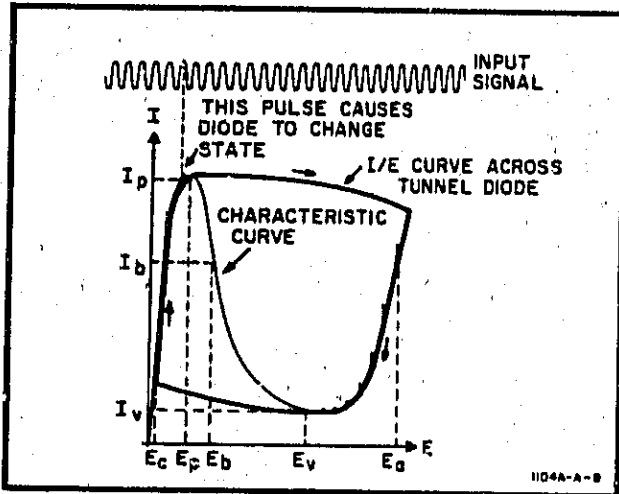

Figure 8. Typical Tunnel Diode Excursion
24. The Model 1104A consists principally of a constant current bias supply for the tunnel diode. The output current is set by R3 and R4 (Figure 11) to a value which provides relaxation oscillation by the action of the tunnel diode and L5. The tunnel diode oscillates at a free-running frequency of approximately 100 MHz, depending on the current supplied by the bias supply and the inductance of L5. A typical tunnel diode characteristic curve is shown in Figure 8. A negative resistance region (in which current would decrease as voltage increases) exists between I_p and I_v . The bias output of the Model 1104A is adjustable between these two points; for instance, I_b .
25. When the power is applied, the current into the tunnel diode begins to rise toward I_b . When it reaches I_p , it encounters the negative resistance region where increasing voltage demands decreasing current. Since the Model 1104A supplies a constant current, and the current through L5 cannot increase instantly, T. D. voltage (E) jumps to E_a . Note as the current through L5 begins to increase, the current through the tunnel diode must decrease toward I_b (since total current is constant) and E begins to diminish toward E_b . When I reaches I_v , it again encounters the negative resistance region where decreasing voltage demands increasing current. Since total current is fixed and the current through L5 cannot decrease
26. Application of a high-frequency input signal to the tunnel diode mount input connector causes the switching of the tunnel diode to synchronize with the input signal. Synchronism will occur when a specific cycle of the input signal causes the tunnel diode current to exceed the switching level. See Figure 8.
34. If there is no trigger output from the Trigger Countdown, check voltage using a VTVM with the T. D. Mount disconnected and a 2.7-ohm resistor connected across the Model 1104A INPUT connector. The schematic indicates typical dc voltages with the STABILITY control at full counterclockwise. Voltages in parenthesis are with the STABILITY control at full clockwise. Variations of 15% are normal. To check the T. D., use a Tektronix Type 575 Transistor Curve Tracer. Set Vertical to 10 mA/cm, Horizontal to .2 V/cm, Peak Volts Range to 0-20, Peak Volts to zero, Dissipation Limiting Resistor to zero and Polarity to +. Connect lead C to center conductor and lead E to T. D. Mount case. Slowly increase Peak Volts. The characteristic curve illustrated in Figure 8 should develop. The points on the curve should meet the following criteria: $I_p < 60$ mA, $E_p < 400$ mV, $I_p - I_v > 37$ mA, $E_a - E_p > 400$ mV.